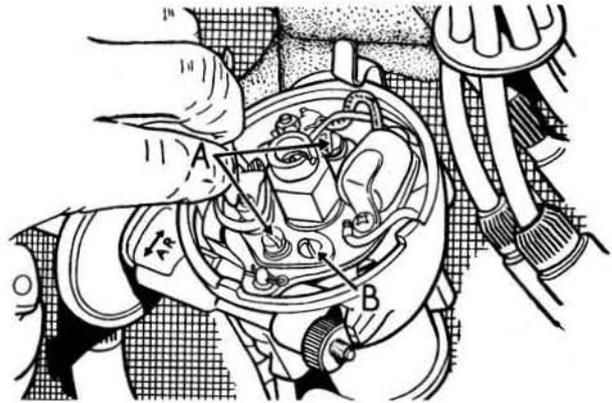

FIG.4.1. CHECKING CONTACT BREAKER GAP - DMBZ6A DISTRIBUTOR
5 Refer to Fig.4.1 which illustrates the DMBZ6A type of distributor. The fixed plate is held by two screws (A) one of which passes through an elongated hole in the plate. Slacken these screws and rotate screw B, which is an eccentric headed adjusting screw, until the correct contact breaker gap is obtained. Now tighten screws "A".